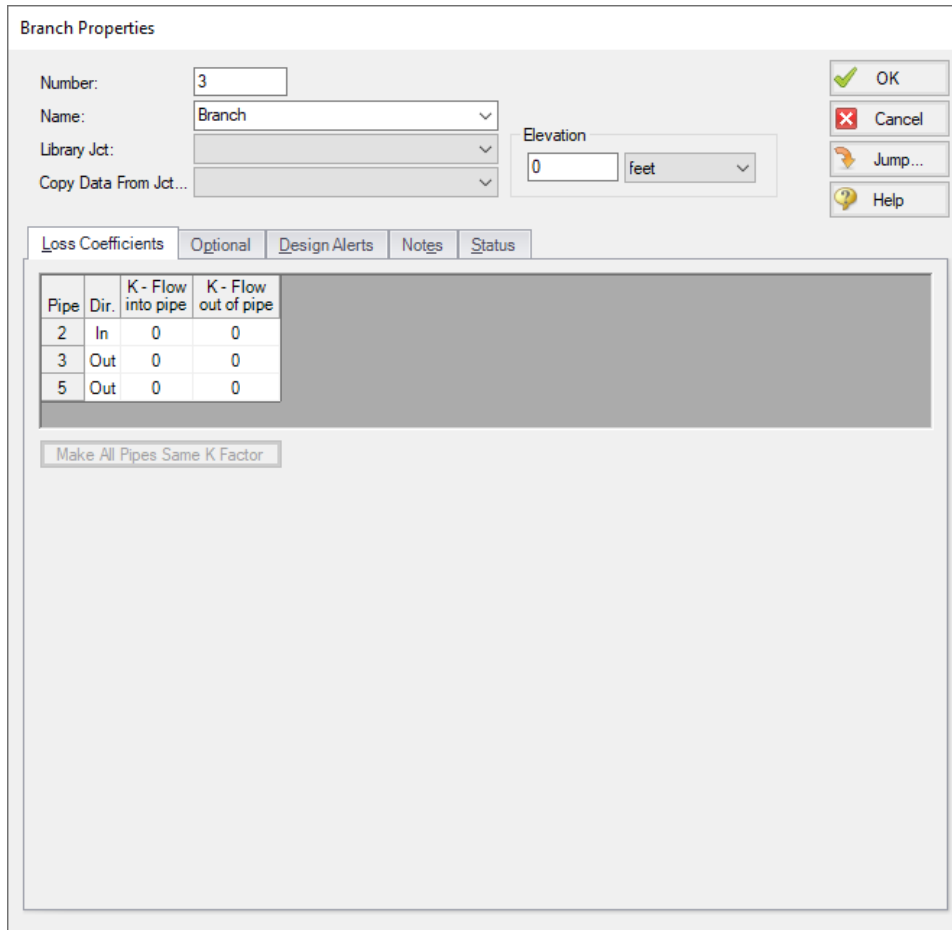

Figure 14: Properties window for Branch J3
- **Open the Branch J3 properties window** (see Figure 14). In this window, three connecting pipes should be displayed in the pipe table area. You can associate loss factors with each pipe by clicking within the pipe table and entering the data. These will be set to zero for this example.